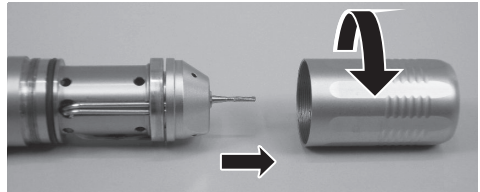

Fig. 15
- (1) Loosen the cartridge retainer by turning it in the direction shown in Fig.15.